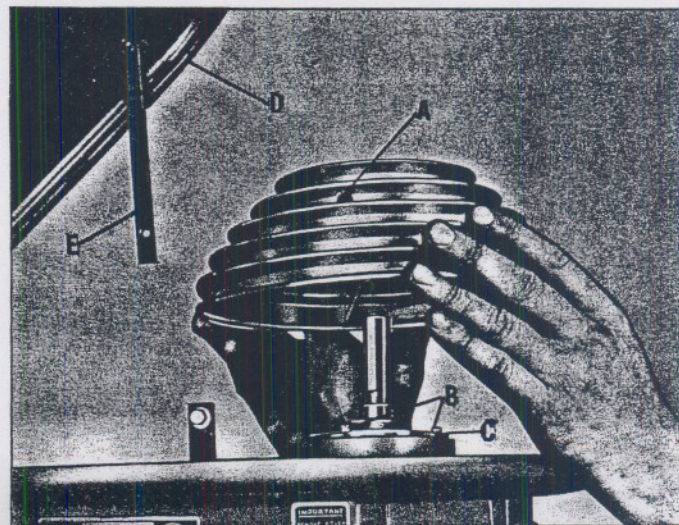

Fig. 2.
1. Raise belt guard, remove nut from bracket (E) and tilt guard back as shown in Fig. 2.
4. Loosen set screw (A) Fig. 2, in spindle pulley, and slip the pulley off of the shaft.
5. Remove the three screws (B) and bearing retainer plate (C) Fig. 2.